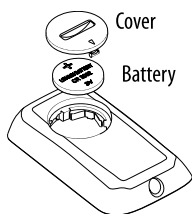

Fig. 1
- To replace the batteries, remove the battery cover by rotating it with a coin or a screwdriver. Replace the battery paying attention to respect the right polarity as shown in figure 1.